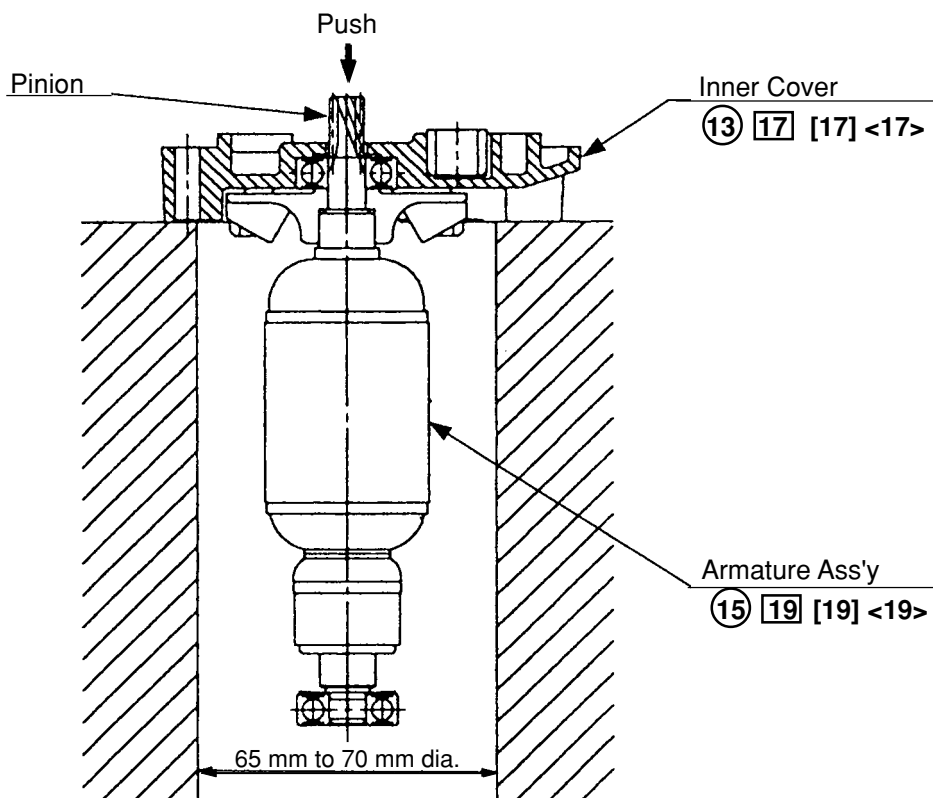

Fig. 21
(5) Removal of the armature ass'y from the inner cover
As illustrated in Fig. 21, support the Inner Cover (13) (17) [17] <17> with a tubular jig, and push down on the top of the pinion of the Armature Ass'y (15) (19) [19] <19>.